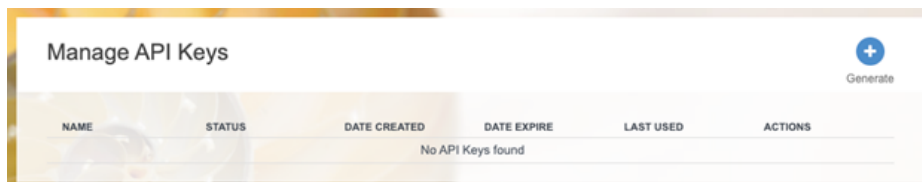

Figure 36: API Key List dialog
- In a third browser tab, navigate to <https://accounts.login.illumina.com/platform-home/#/apiKey/list> (Figure 36). (If your BaseSpace account is part of an Enterprise subscription, navigate to [https://\[YourEnterpriseDomain\].login.illumina.com/platform-home/#/apiKey/list](https://[YourEnterpriseDomain].login.illumina.com/platform-home/#/apiKey/list) ).